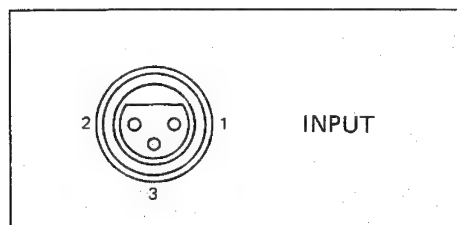

Fig. 1
10.1.1. LINE INPUT (Fig. 1)
(Fig. 1)
Balanced input MIC INPUT (Fig. 1)
Entrée symétrique MIC INPUT (Fig. 1)